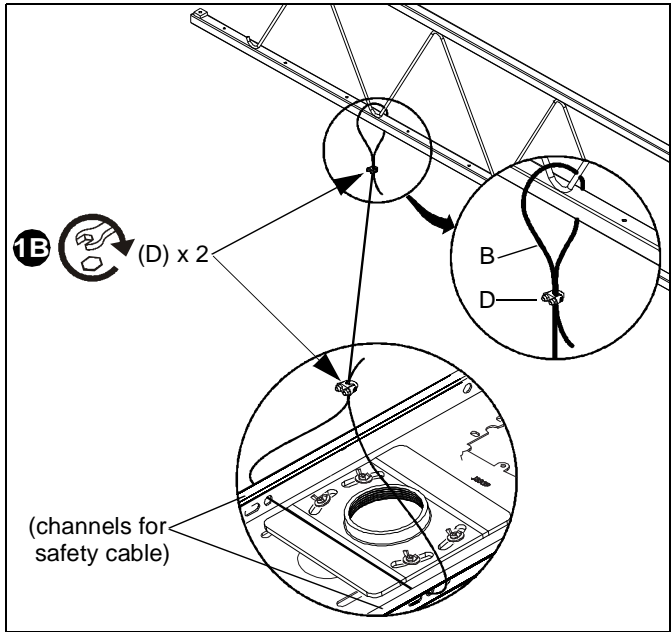
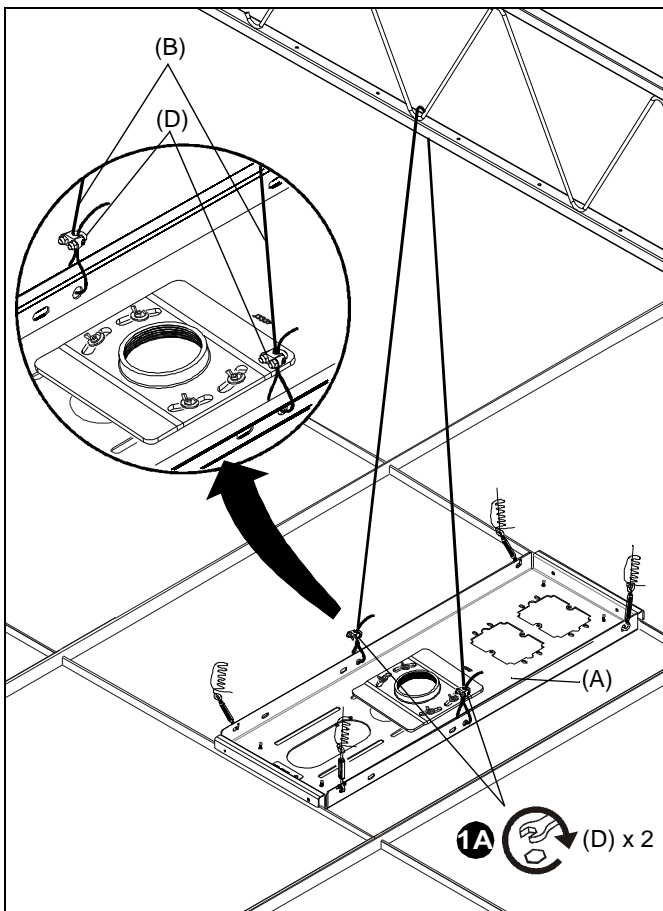

Figure 13
Figure 12
- A. For ceiling structure less than 4' (1.2m) from ceiling tray (A) (See Figure 12):
- Attach one end of cable (B) to channel in tray (A). Secure with wire clamp (D).
- Route opposite end of cable (B) over truss, and attach to opposite channel in tray (A). Remove cable slack and secure with wire clamp (D).
- B. For ceiling structure from 4 - 7' (1.2 - 2.1m) from ceiling tray (A) (See Figure 13):
- Route one end of safety cable (B) over truss and secure to itself with wire clamp (D).
- Route opposite end of safety cable (B) through *both* channels in tray (A). Remove cable slack and secure to itself with wire clamp (D).
- C. For ceiling structure more than 7' above tray (A):
- Attach cable to tray (A) per step 1.A. or 1.B. above. (See Figure 12) and (See Figure 13)